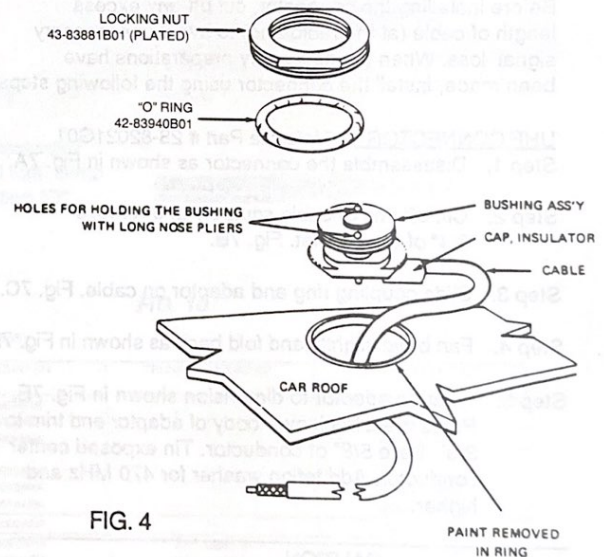

FIG. 4
4. Insert spanner wrench, part # 66-80371A75 or the tips of a needle nose pliers in bushing assembly to prevent mount assembly from slipping. Use a 15/16" open-end wrench to tighten locking nut firmly against vehicle surface. The locking nut must be in contact with vehicle metal to ensure proper antenna radiation. See Figure 4.